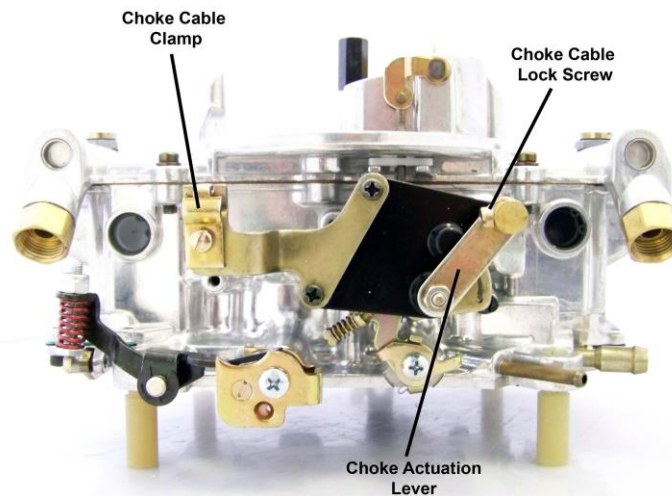

Figure 3c
- A. Connect the choke control cable (Summit Part # SUM-G1300) to the choke actuation lever, and lock in place with the choke cable lock screw. (Figure 3c)